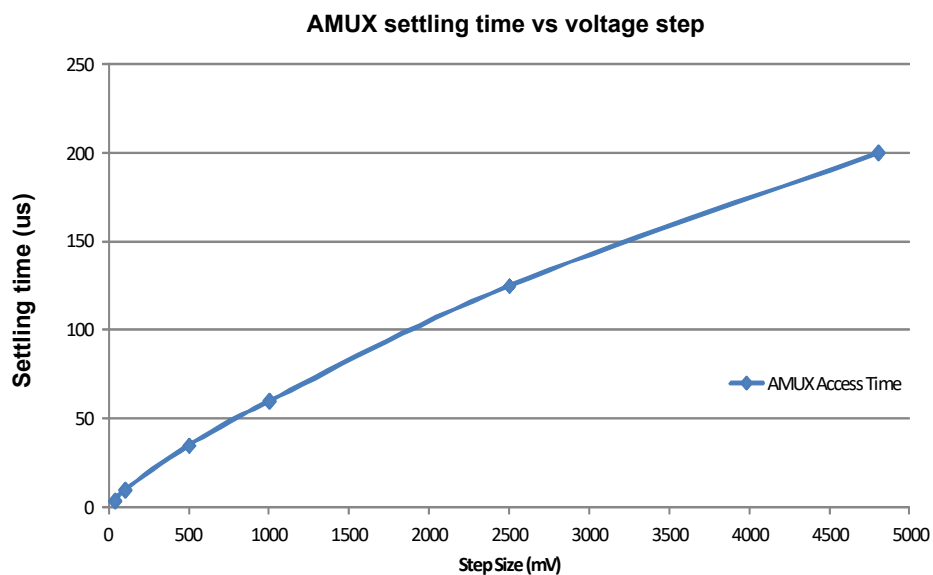

Figure 9. AMUX access time waveform
26. AMUX settling time to be within the 10 mV offset specification. $AMUX_{VALID}$ is dependant of the voltage step applied on the input SGx/SPx pin or the difference between the first and second channel selected as the multiplexed analog output. See Figure 9 for a typical AMUX access time VS voltage step waveform.